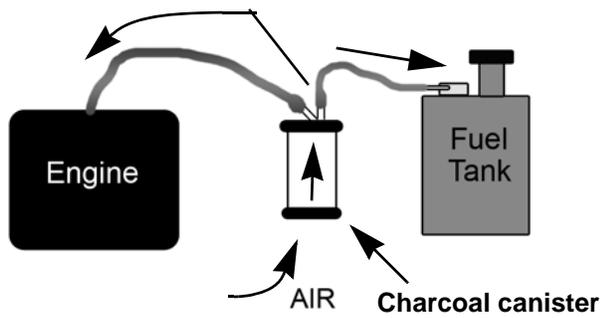

Figure 4.18
- When the engine is running, the vacuum inside the carburetor insulator is used to draw the vapors out of the charcoal canister, temporarily enriching the fuel/air mixture, and is used in the combustion process. See Figure 4.18.